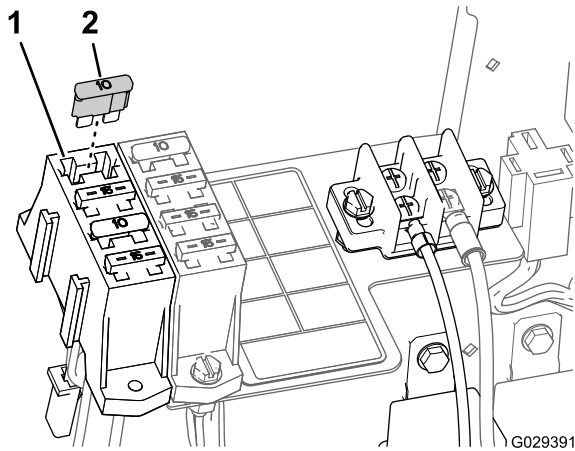

Figure 23
- For a machine with the bladed-attachment connector at the fuse block for the machine, install the 15-amp fuse into the fuse block (Figure 23).